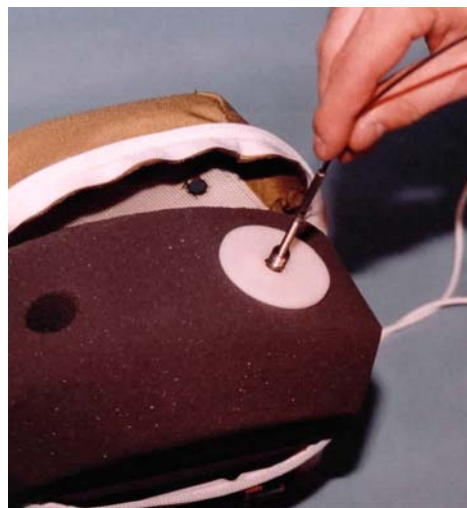

Figure 17.15- Load Distribution Plate assembled on the cable
16. Place a Load Distribution Plate (T1LAM014) onto each DGSP assembly cable, as shown in **Figure 17.15**. The small counterbore in one side of the distribution plate must be oriented toward the DGSP assembly. These load distribution plates will rest inside the lower abdomen bag and distribute the tension in the string potentiometer to a large area of the foam.